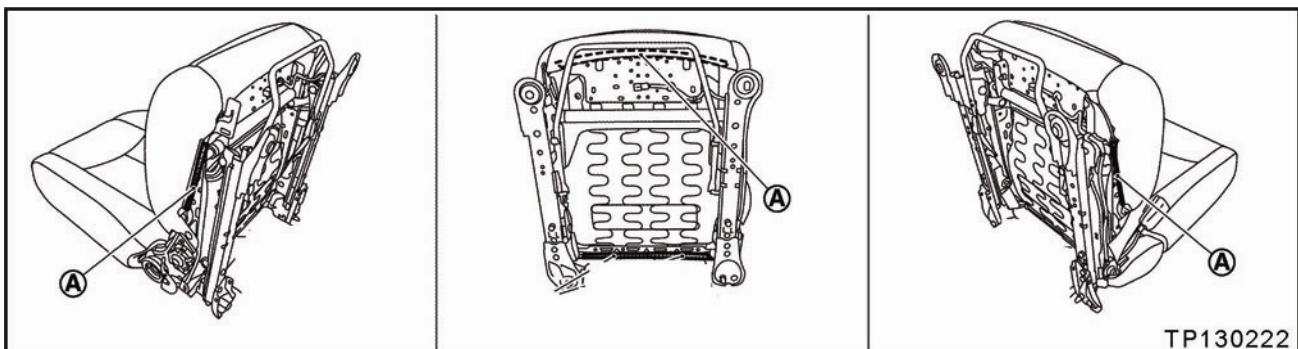

Figure 30
39. Reconnect the seat cushion trim J-hooks A (see Figure 30).